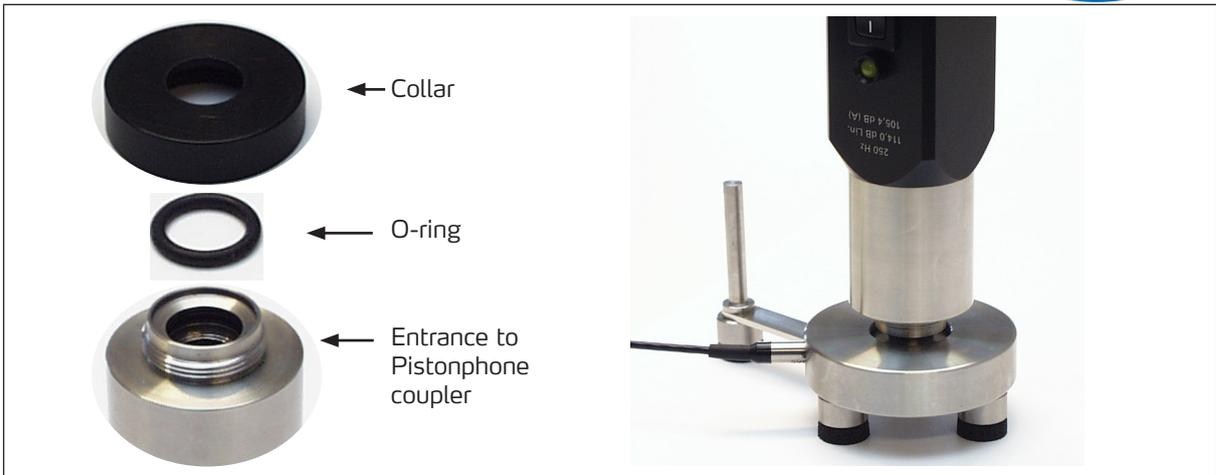

Fig. 5. Calibration using the Pistonphone.
- 3) Unscrew the collar of the Pistonphone and remove the O-ring (see Fig. 5).